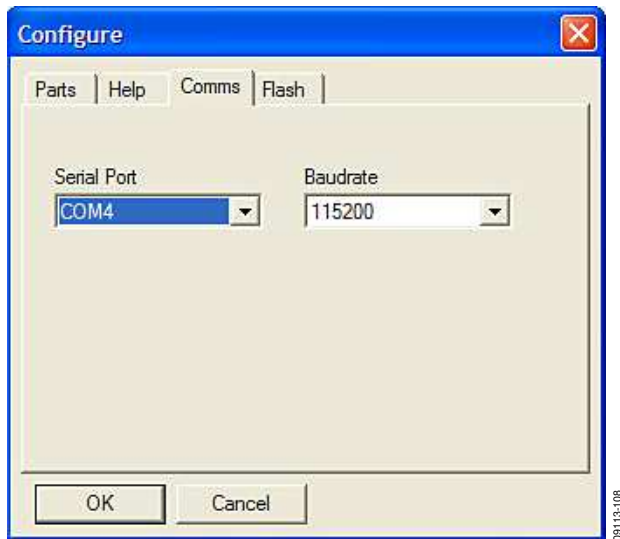

Figure 9. Selecting the Correct COM Port for the Downloader
4. Click **Configure** to display the box shown in Figure 9.
The downloader file should be configured for the **ADuC7026** microcontroller on the ISEB. The only option you may need to change is the COM port. You can select the correct port from the **Serial Port** menu on the **Comms** tab (see Figure 9).